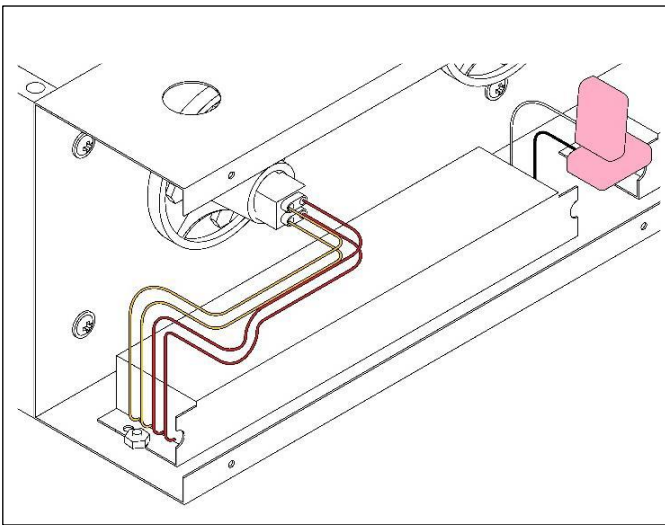

Figure 20
6.) Use an 11/32" socket wrench to remove the (2) nuts holding the ballast into place. See Figures 20 and 21.
8.) Reinstall the (2) nuts that hold the ballast in place. See Figures 20 and 21.